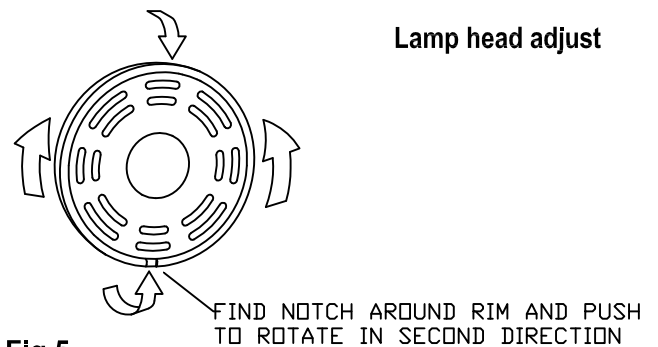

Fig 5
6. Adjust the lamp heads as required. (see Fig 5).